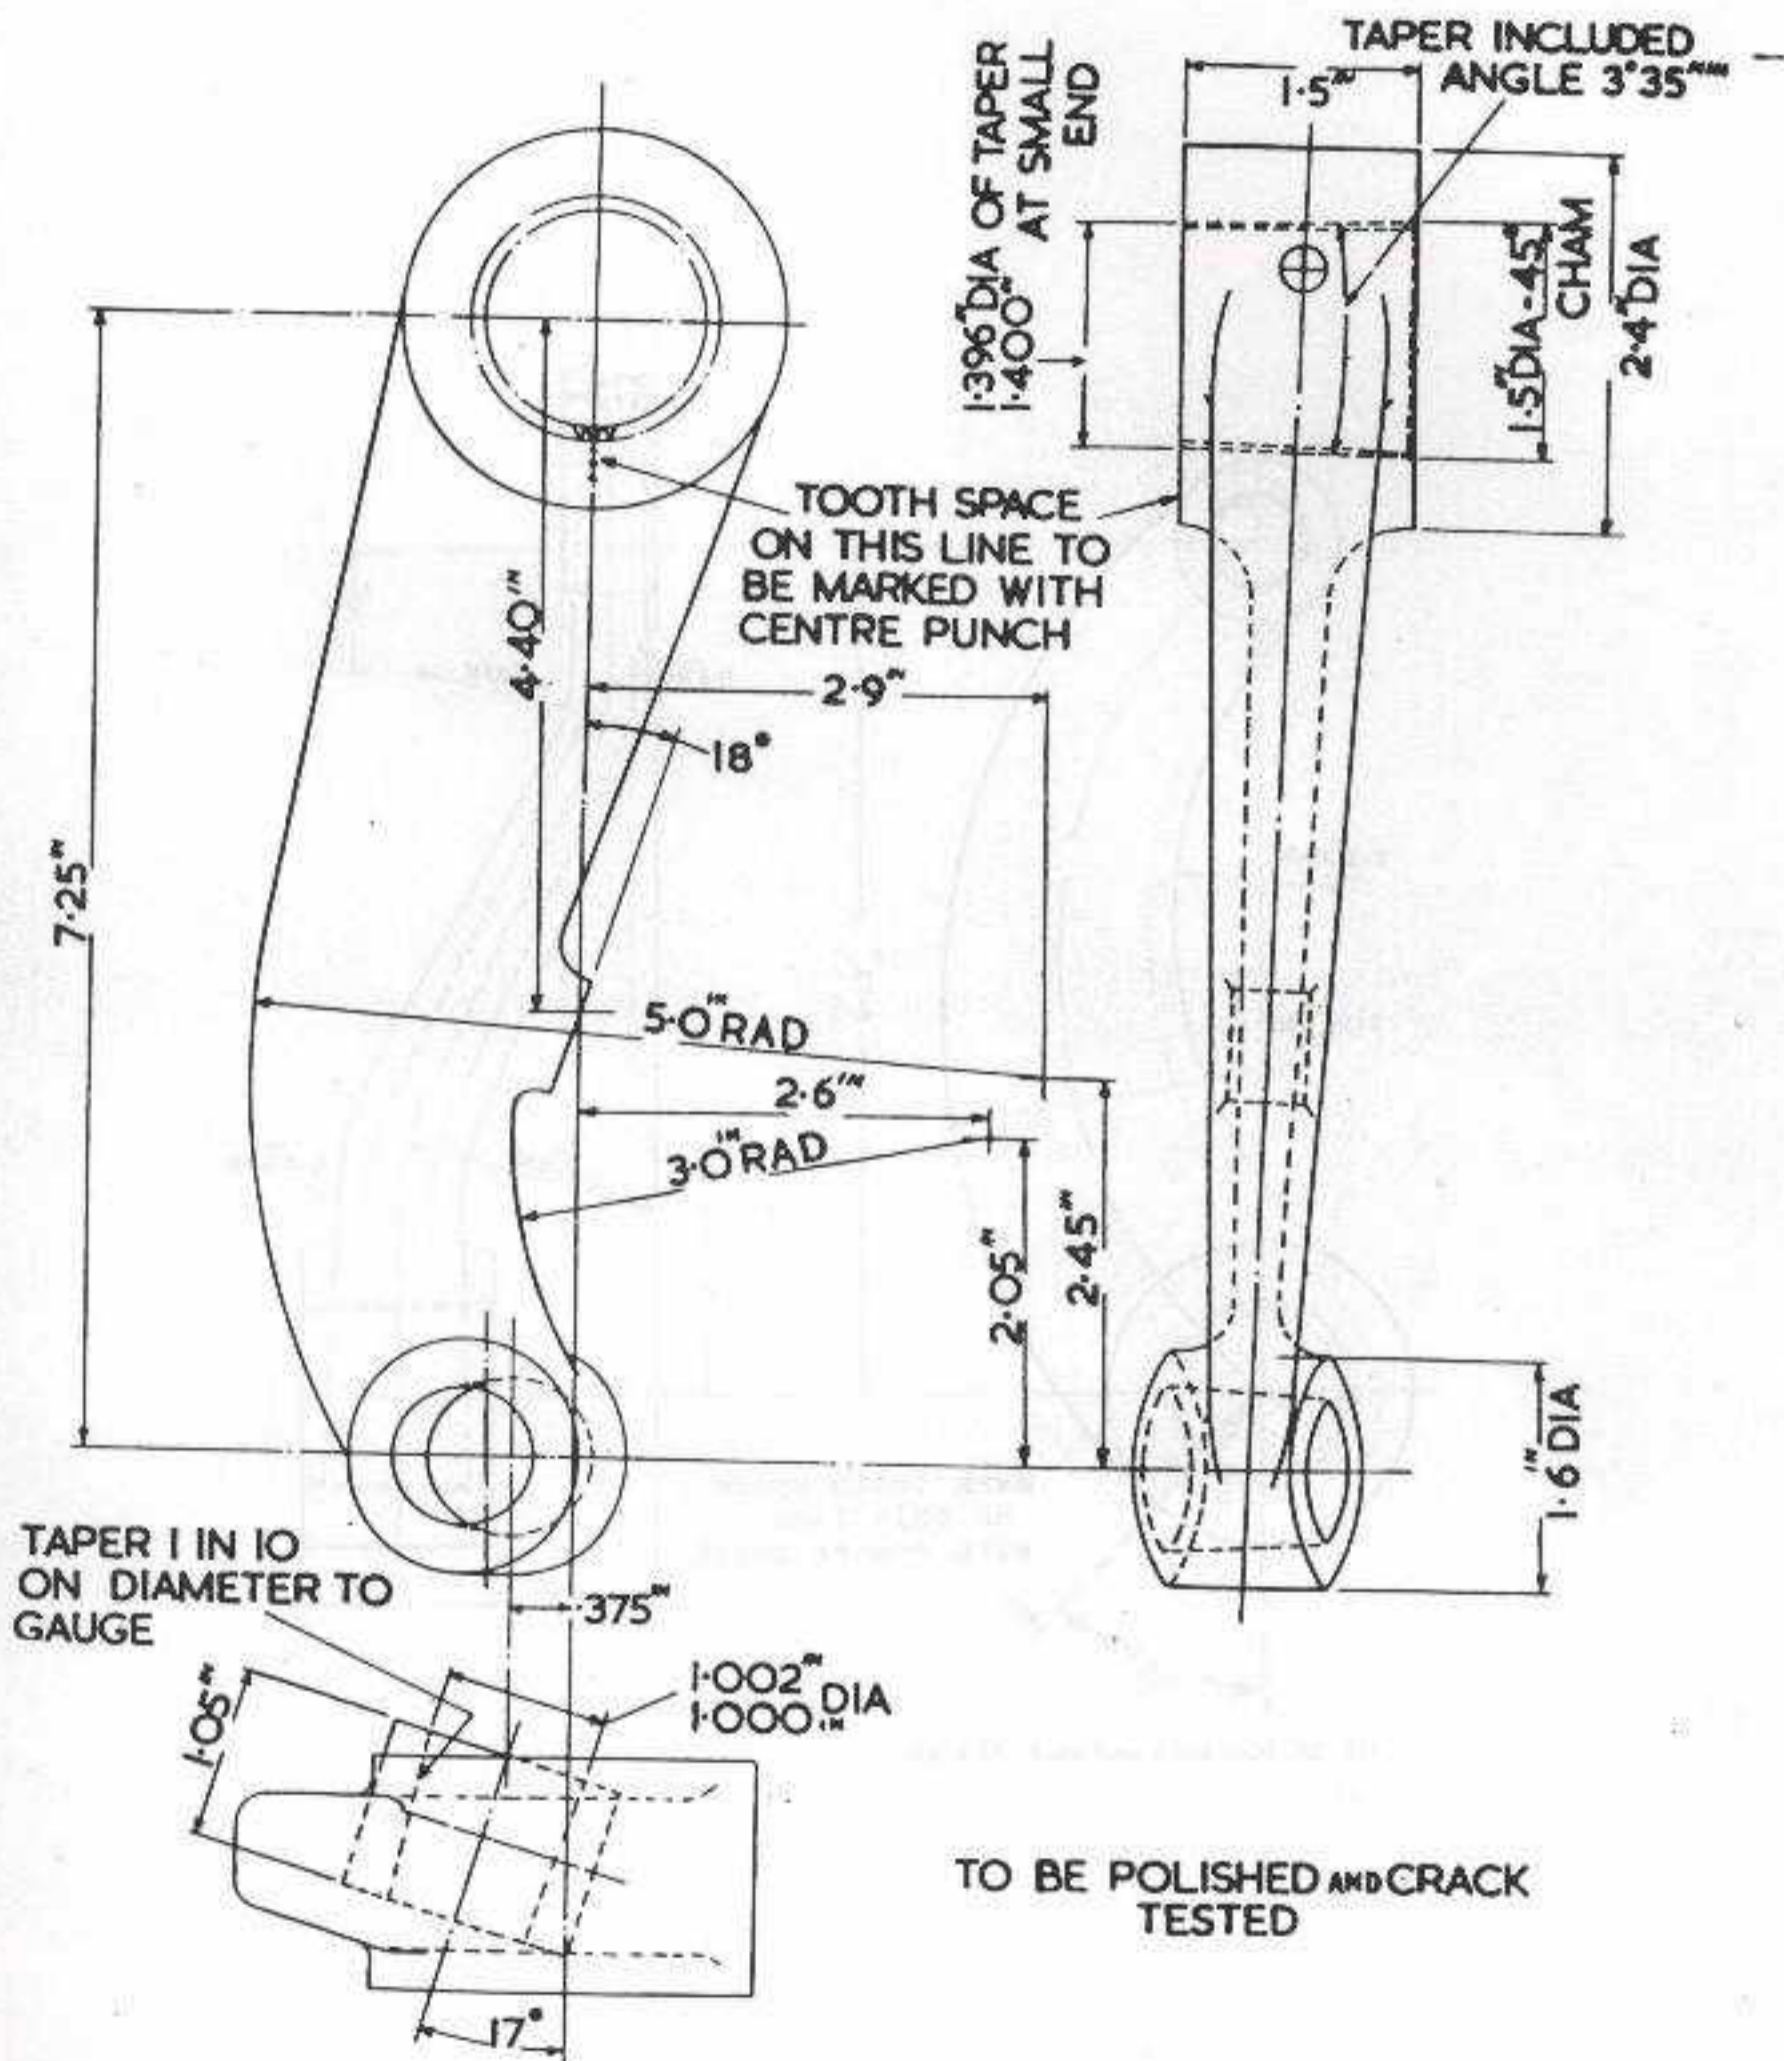

FIG 29 - STEERING - LEVER OUTER
58. The steering is fully described in VEH N 404-1. Figs 29 and 30 give dimensions and details of the inner and outer steering levers for checking against bend or twist.